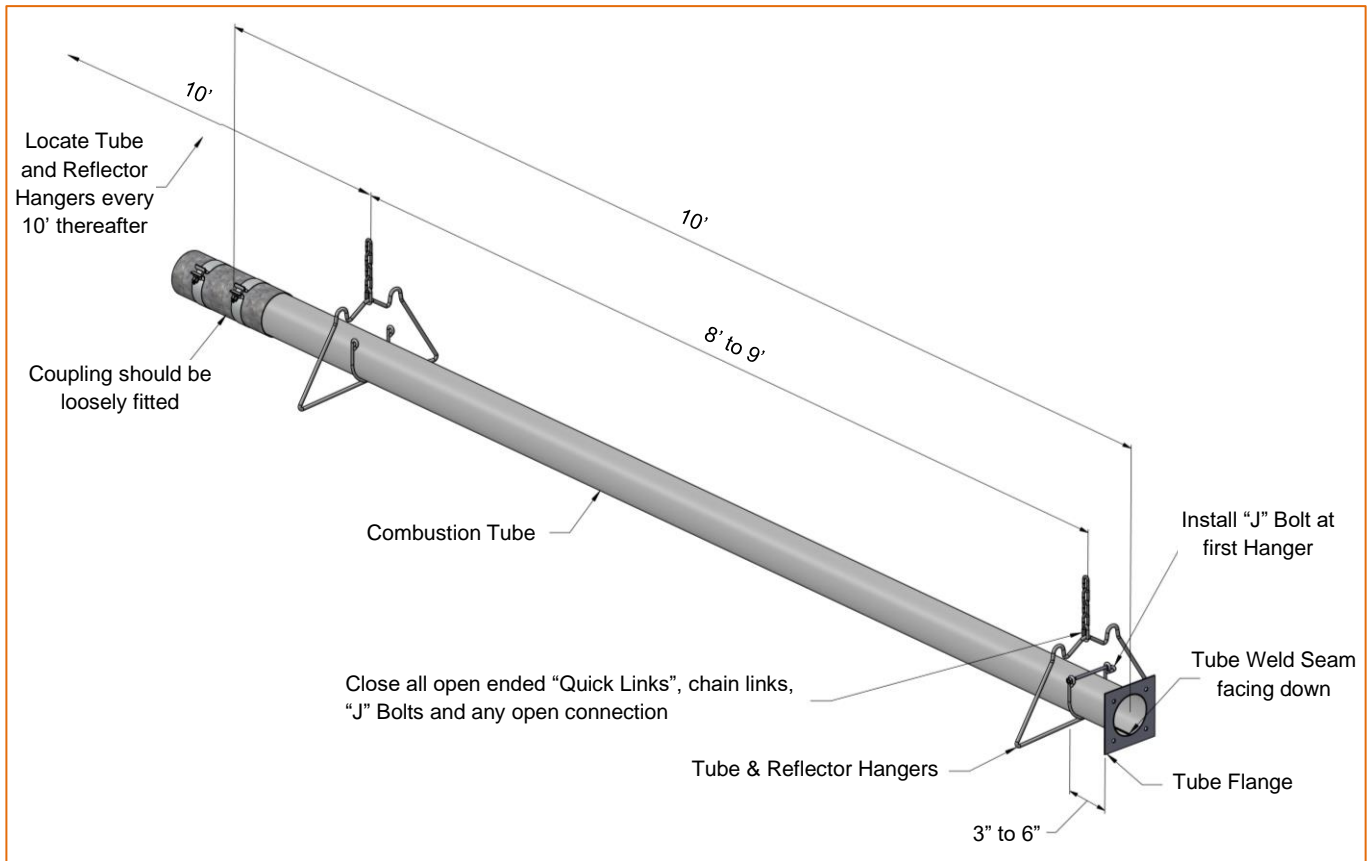

Figure 7: Installation of First section of Flanged Tube
- Place the first (flanged, aluminized) tube in the first two hangers (Figure 7). Be sure the flange is toward the intended burner location. The other end of the tube should have the first coupling already loosely fitted.
- Always use all the hangers supplied. As a rule the combustion tube (first tube) utilizes 2 hangers and thereafter 1 hanger per 10' section. It is required that the first hanging point be 3" to 6" from the burner mounting flange, and tube weld seam must face down, refer to Figure 7 for more details.